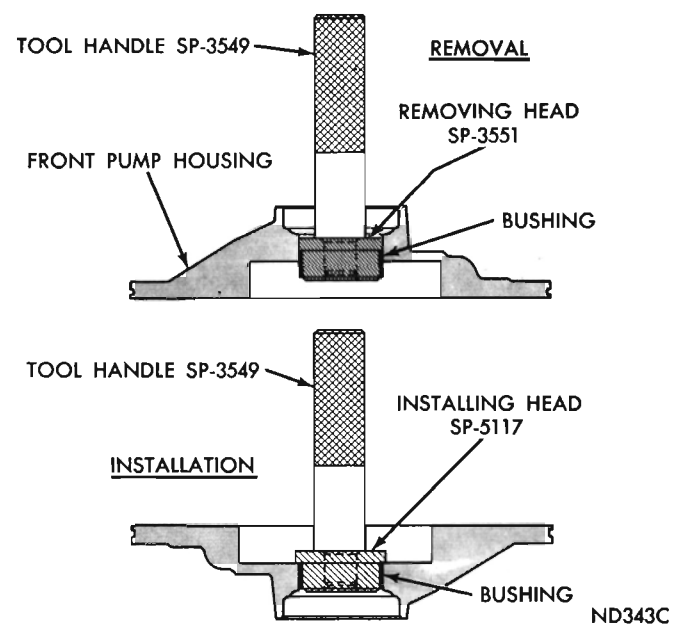

Fig. 59—Replacing Pump Bushing (A-904)
- (1) Place pump housing (seal face down) on a smooth firm surface.
- (2) Place removing head, Tool SP-3551 in bushing and install handle, Tool SP-3549 in the removing head (Fig. 59).
- (3) Drive bushing straight down and out of pump housing bore. Be careful not to cock tool in the bore.
- (4) Position new bushing on installing head, Tool SP-5117.
- (5) With pump housing on a smooth clean surface,
start bushing and installing head in the bushing bore. Install handle, Tool SP-3549 in the installing head (Fig. 59).